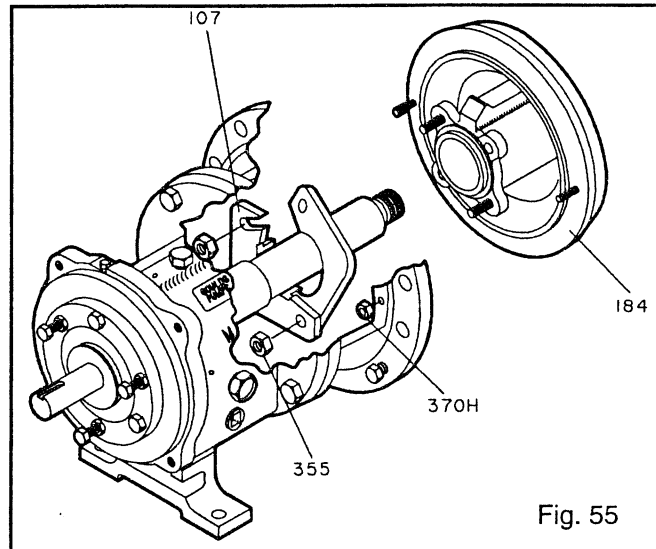

Fig. 55
- Remove gland stud nuts (355), and gland (107).
- Remove stuffing box cover (184). (Fig. 55).